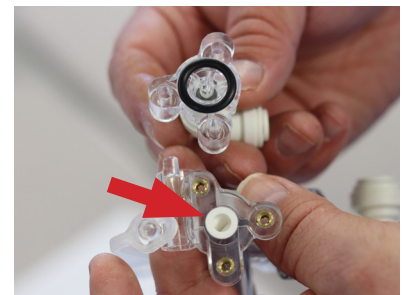

FIGURE 7 - Locate Duckbill Valve
- 5. Pull apart assembly being careful not to lose parts. Record which direction the Duckbill Valve is currently installed. (See figure 7)
- 6. Remove old Duckbill Valve. (See figure 7)